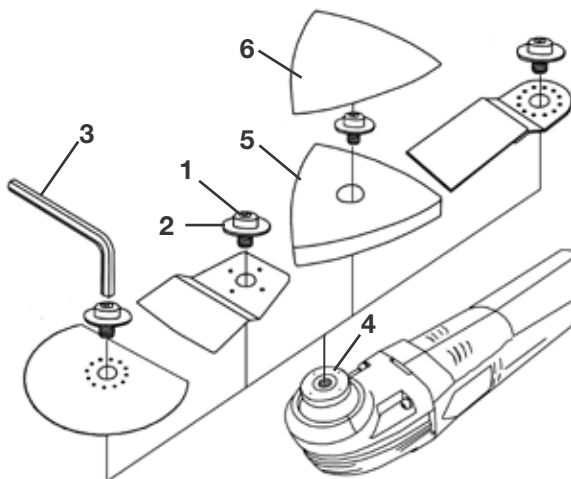

FIG 3
Installing and Removing Accessories (FIG 3)
1. Loosen and remove the cap screw (1) and the washer (2) from the shaft flange (4) using Allen wrench (3) provided.
2. Place the accessory over the shaft flange (4). The shaft flange of this tool comes with a 4-pin design. Make sure the holes on the accessory properly engage those 4 pins and the accessory is flush against the shaft flange.
3. Put the cap screw (1) and the washer (2) back on. Make sure the concave side of the washer (2) is facing the accessory. Tighten the cap screw securely using Allen wrench (3) provided. See FIG 3
1. Loosen and remove the cap screw (1), and the washer (2) from the shaft flange.
2. Place hook & loop sanding pad (5) against the shaft flange(4), making sure to position it with one tip facing straight forward. Make sure that the 4 pins on the shaft flange fully engage the sanding pad, and that the pad is flush against the shaft flange. See FIG 3.
4. Align the sandpaper (6) and press it onto the sanding pad (5) by hand. Turn the tool over, and firmly press the sandpaper against a flat surface to secure the hook and loop paper. See FIG 3.